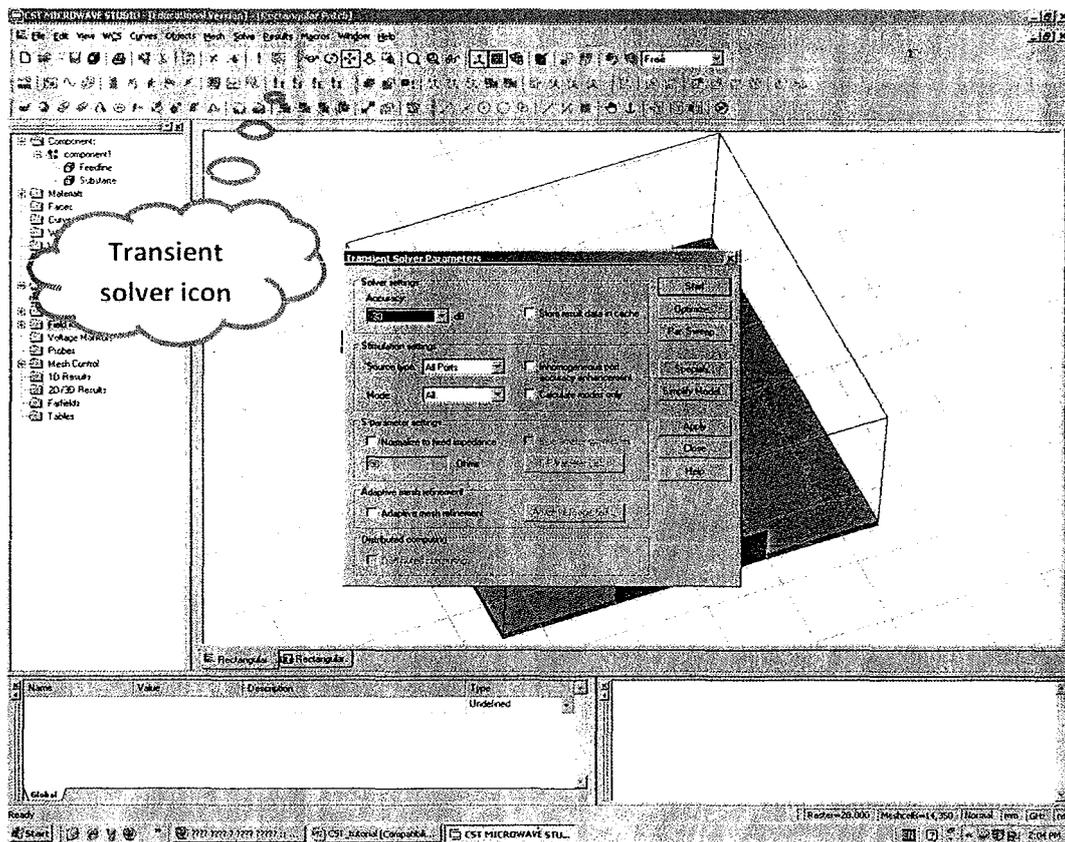

Fig.22 Running the transient solver
- b. Form transient solver window you can adjust the solver accuracy “the error margin” in this example I choose it to be -30 dB then click start as shown in Fig.22